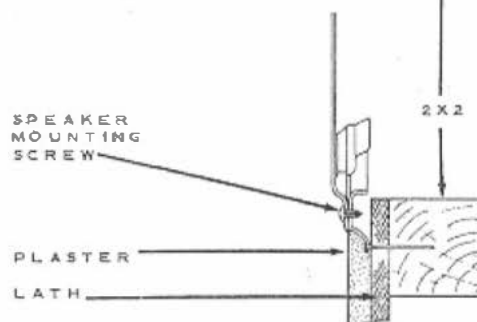

Figure 6.
3. After plastering is completed, install the speaker (*figure 6*).